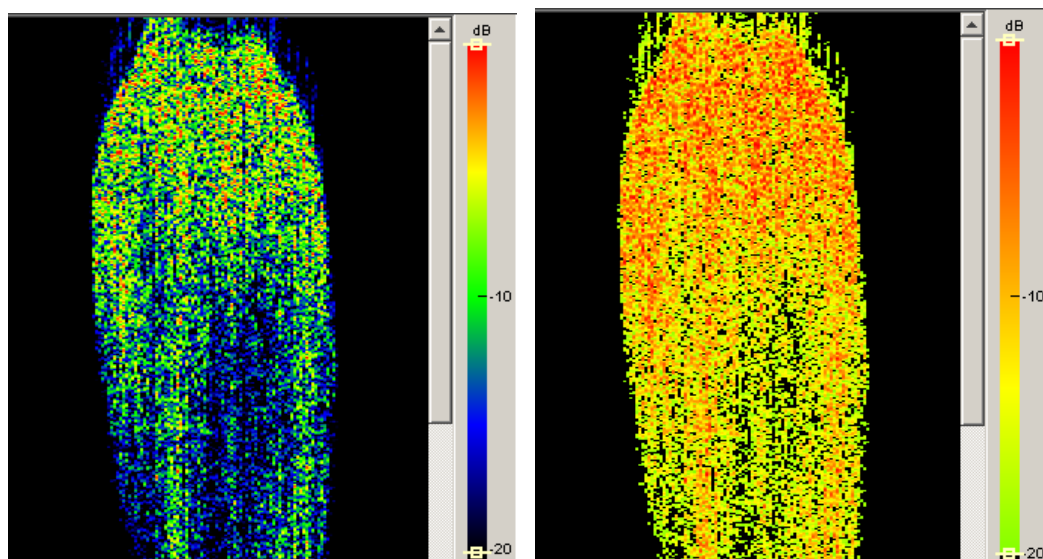

Figure 4-2 Effect of colour cropping; without and with, left and right respectively.
- Crop colors:** Checkbox for locking the colour scale. Makes it simpler to compare levels. Figure 4-2 shows an example of using the function.